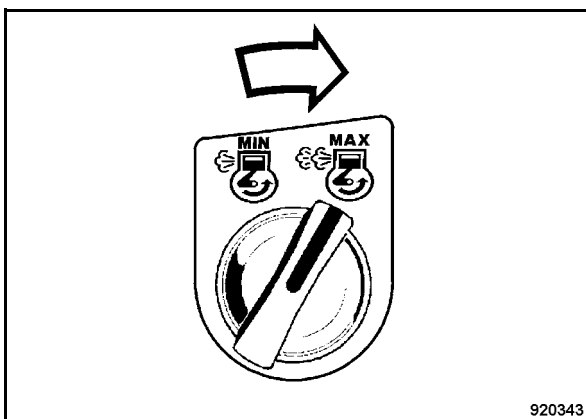

Fig. 133
- Turn the rotary momentary contact switch for engine speed (Fig. 133) clockwise to "MAX".